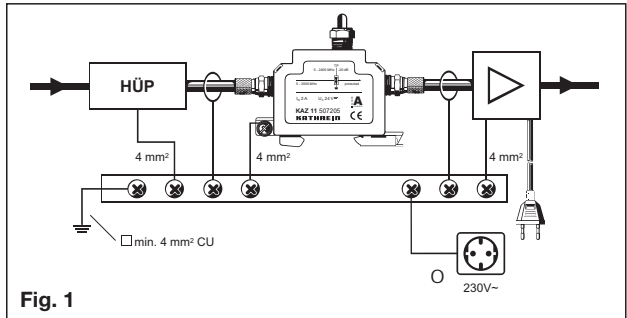

Fig. 1
- Effect the potential equalisation according to Fig. 1.